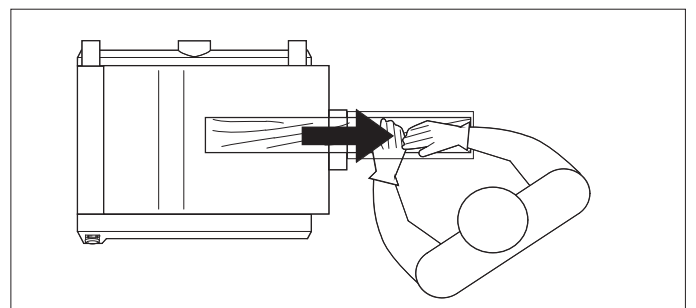

FIG. 8
2. To remove the workpiece from the machine, position yourself offset to one side of the outfeed opening. FIG. 8. Do not pull the lumber as it exits the machine. Let the out-feed roller move the workpiece out of the planer at its own rate, but support the lumber as it extends past the extension rollers.